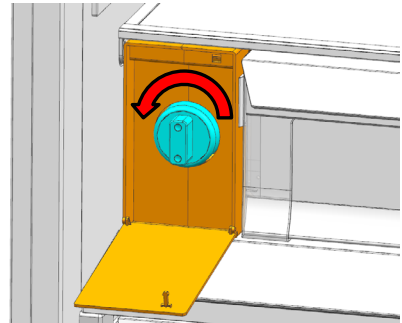

Figure 2
2. Remove the old filter from the housing by turning counterclockwise and pulling out (Figure 2).
- To install, remove the water filter as outlined in Figure 2 on the previous page, insert the plug into the housing, rotate clockwise until snug, and then re-secure the filter cover.